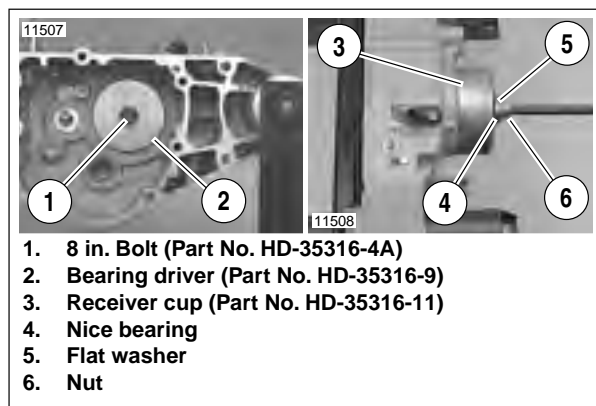

Figure 6-70. Removing Main Drive Gear Bearing (Typical)
3. Insert 8 IN. BOLT (Part No. HD-35316-4A) (1) through bearing driver and bearing.
4. See Figure 6-70. At outside of case, slide RECEIVER CUP (Part No. HD-35316-11) (3) onto bolt and over bearing. Install NICE BEARING (4), FLAT WASHER (5) and NUT (6) over end of bolt.